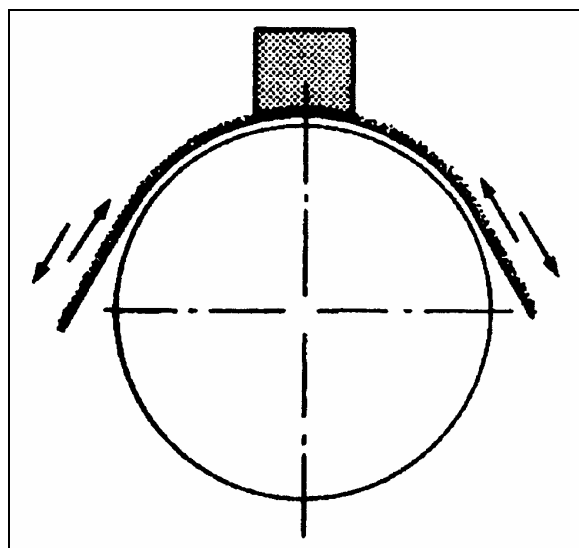
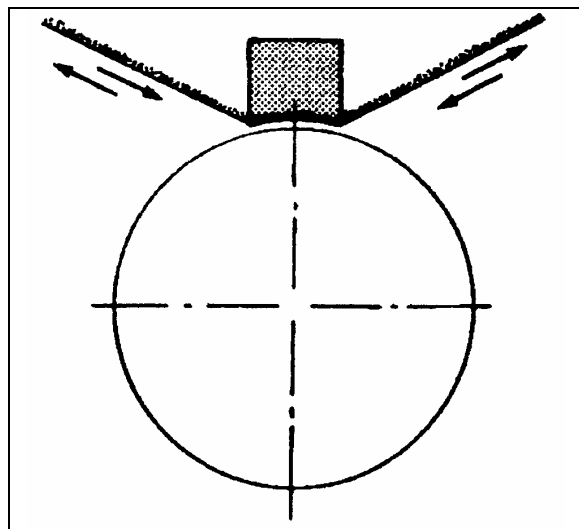

FIGURE 26: PROPER GRINDING TECHNIQUE 22317
FIGURE 27: IMPROPER GRINDING TECHNIQUE 22318
- a) Grinding with abrasive cloth (60 grit sandpaper) applied to the commutator must be done by hand. With the new brushes installed in brush holders and pressing against the abrasive cloth, rotate the armature (by hand) until satisfactory seating of each brush is achieved (Refer to figure 26). It is necessary to avoid raising the cloth under the brushes otherwise it would result, after grinding, to reduce and badly definite surfaces (Refer to figure 27).